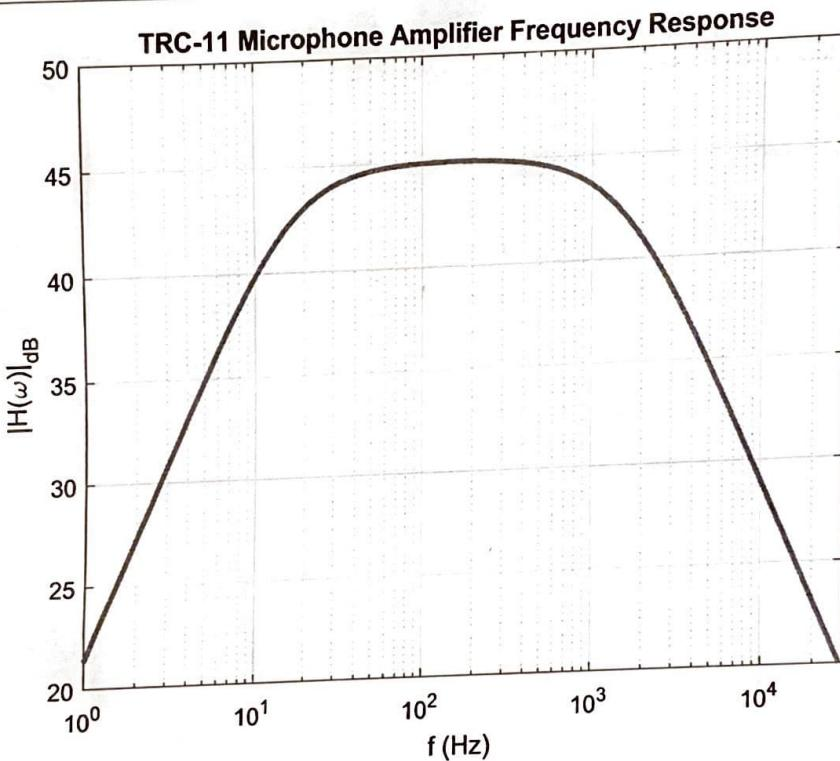

Figure 3: Calculated Frequency Response of the Microphone Amplifier
3. The gain function in decibels is plotted in Fig. 3. If $f_1 \ll f \ll f_2$, then $|v_o/v_{in}| = A_v = 20 \log_{10} A_v = A_{v dB}$. If $f = f_1$ or $f = f_2$, then $|v_o/v_{in}| = A_v/\sqrt{2} = A_{v dB} - 3 \text{ dB}$ (3 dB less than the low frequency value).
14. Find the values of the corner frequencies experimentally by finding the frequencies, f'_1 and f'_2 , where the gain is 3-dB less than (or $0.707 \times$) its mid-frequency gain value. Compare your results with the calculated values above and the curve shown in Fig. 3.